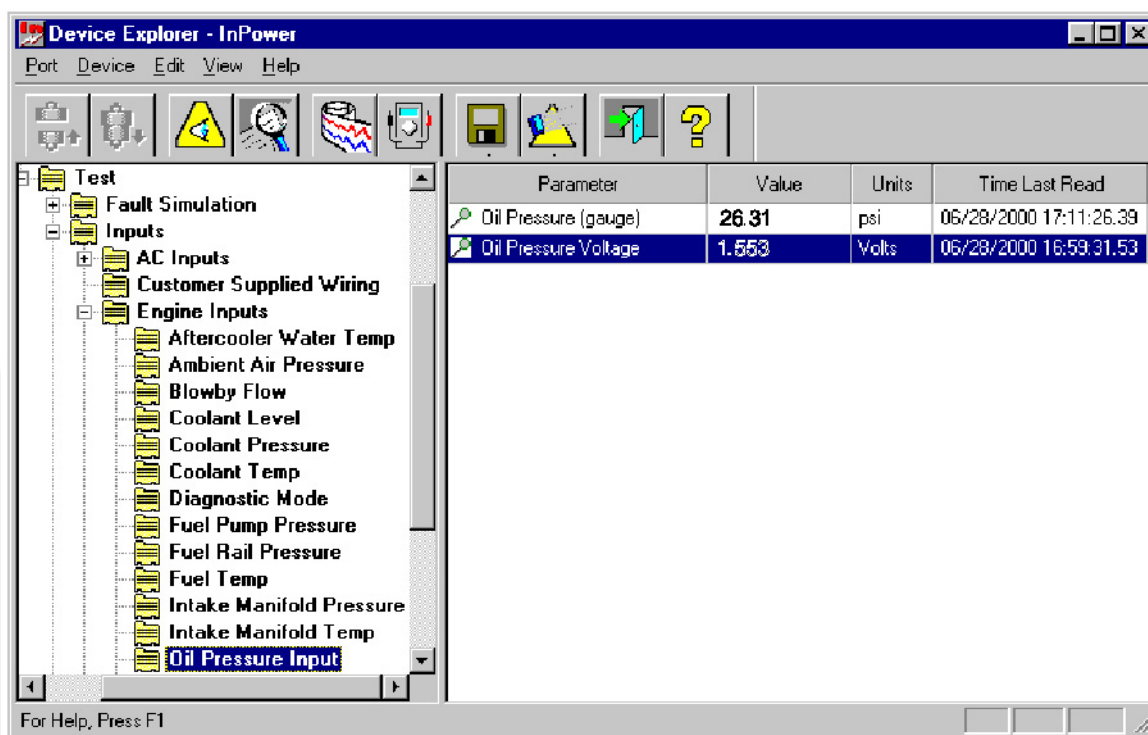

FIGURE 93. TEST - INPUTS - OIL PRESSURE
**Figure 93** shows the results when an input voltage is present, in this example the oil pressure (approximately 26 psi) is displayed in InPower, and should also be displayed in the Operator Panel display.